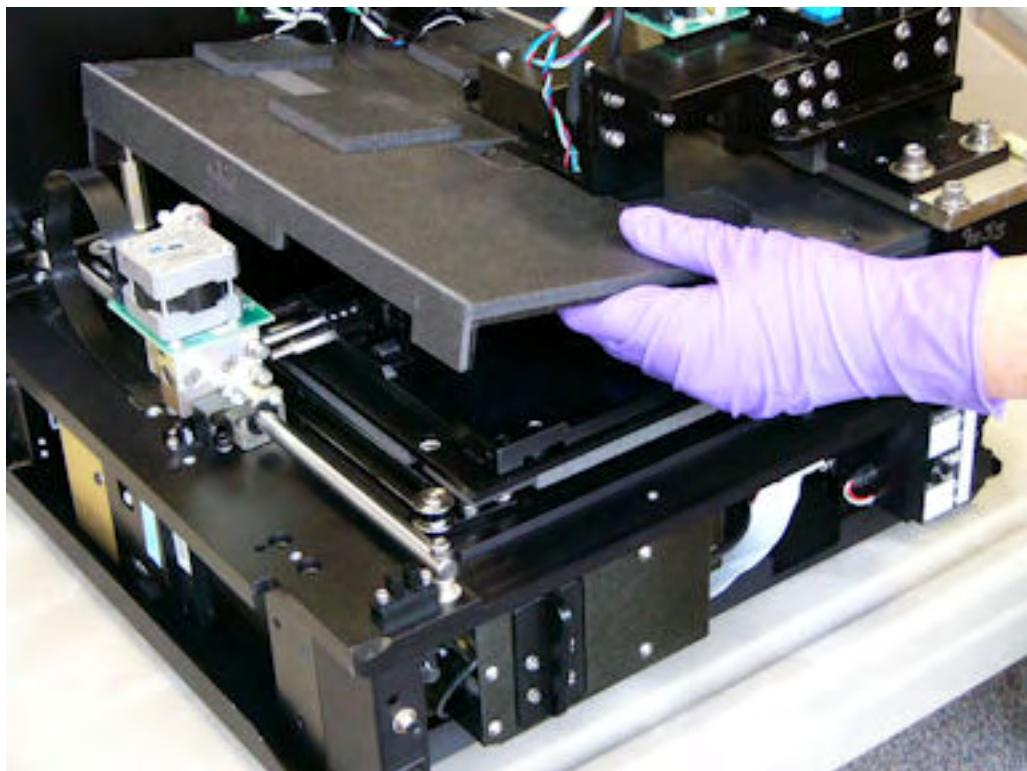

Figure 13: Remove the incubator housing
4. Lift the left side of the incubator housing and carefully slide it out (**Figure 13**).